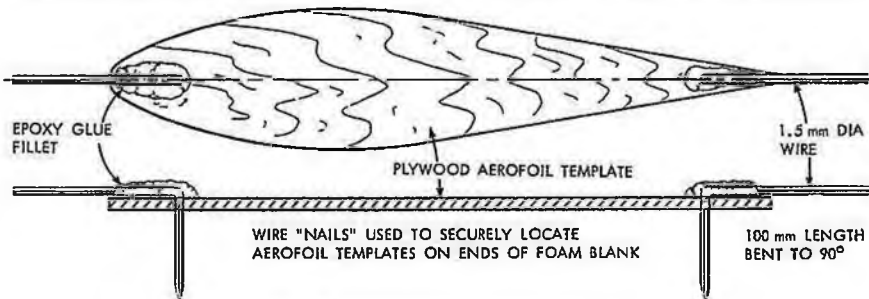

Fig. 1 AEROFOIL TEMPLATES
about 0.075mm (see Figure 1). If you don't get this play, heat the housing to 375°F and ensure that (1) the rear ballrace is fully forward in the housing (use the crankshaft to push the ballrace forward) and (2) with shaft in rear bearing, slide front bearing back to rear-most position in front housing. Spin prop while housing is still hot and when it is cooled to be sure it spins freely both ways.
When making Aerofoil Templates, do not include projections at the leading and trailing edge normally required to lead-in the hot wire for cutting. These projections are necessary to assure accurate cutting of the wing, but they needlessly complicate the process of making templates at this stage. Decide what size "nails" you plan to use to hold the templates to each end of the foam blank and obtain a drill and some piano wire of matching size eg 16swg wire and 1.5mm dia drill. Cut four 100mm lengths of wire and bend a sharp 90° angle at the midpoint of each piece, then epoxy the wires into the "nail" holes of the aerofoil templates so as to function both as hot wire lead-in projections and also template locaters as in Fig. 1. Advantages of the procedure are: templates are easier to make; projections do not burn through or get damaged after repeated use; templates can be installed on the foam blanks quicker during mass production cutting.